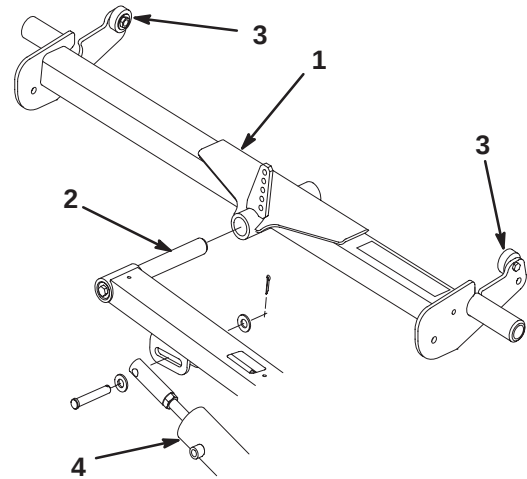

Figure 4
1. Slide the rear carrier frame onto the rear lift arm pivot rod (Fig. 4). **Do not** install the carrier frame to the cutting unit at this time.
3. Press down on one end of the carrier frame until the up stop on the opposite end contacts the underside of the foot step (Fig. 4). The distance between the up stop and the underside of the foot step, on the end pressed down, should be approximately 1/4 in. (6 mm). If the distance
- A. Remove the clevis pin securing the rod end of the lift cylinder to the lift arm (Fig. 4).
- D. Tighten the hex nut and connect the cylinder rod end to the lift arm (Fig. 4).